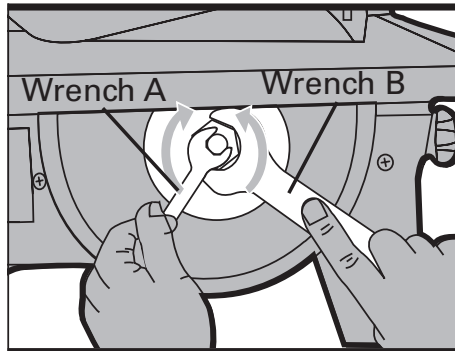

Fig 10
3. Loosen and remove the blade fixing nut. You will need two spanners, A (8mm) and B (19mm) -Not Supplied. See fig10.